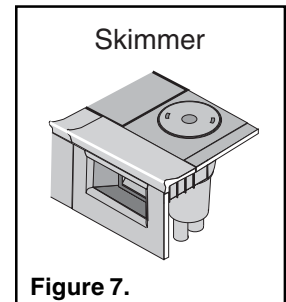
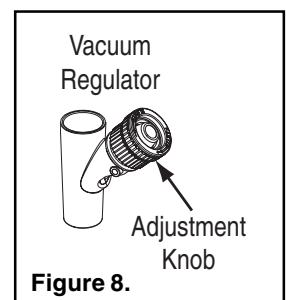

Figure 7.
Figure 8.
The manufacturer recommends the **Standard Installation** through the pool's skimmer, (see Figure 7). The advantage of this installation is its use of the vacuum regulator, (see Figure 8), to balance the water flow between the skimmer and the PoolShark® pool cleaner. The vacuum regulator can be adjusted to changes in the amount of water flow to provide PoolShark® with the power necessary to ensure proper cleaning performance, and the manufacturer strongly recommends its use for maximum safety and performance.
4. Install vacuum regulator. Use the vacuum regulator in conjunction with your pool cleaner system at all times. The vacuum regulator has an adjustment knob, (see Figure 8). If suction is too high, the knob is turned counterclockwise to decrease the suction. If the suction is too low, the knob is turned clockwise to increase the suction.